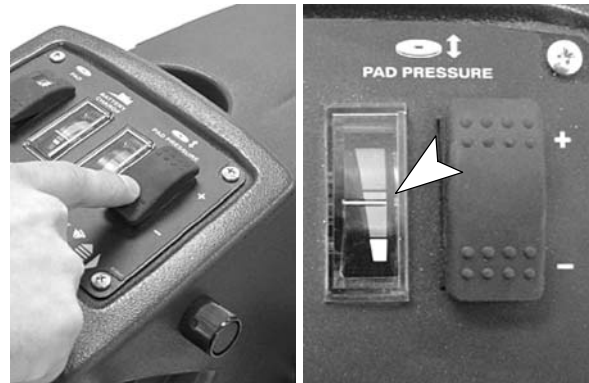

FIG. 14
4. Press the pad pressure switch to increase (+) or decrease (-) the pad pressure. Adjust the pad pressure so that the pad pressure meter reads within the green zone (Figure 14).